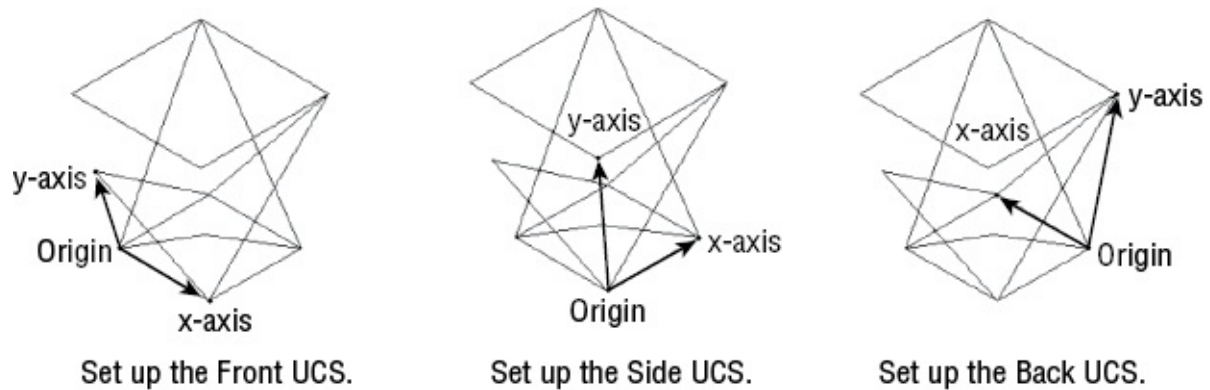

FIGURE 21.31 Defining and saving three UCSs
2. At the Specify new origin point $\langle 0, 0, 0 \rangle$: prompt, use the Endpoint osnap to pick the bottom of the chair leg to the far left, as shown in the left image of Figure 21.31. This is the origin point of your new UCS.
3. At the Specify point on positive portion of X-axis: prompt, use the Endpoint osnap to pick the bottom of the next leg to the right of the first one, as shown in the left image in Figure 21.31.
- At the Specify point on positive-Y portion of the UCS XY plane: prompt, pick the top corner of the butterfly chair seat, as shown in the left image in Figure 21.31. The UCS icon changes to indicate your new UCS.
- Define a UCS for the side of the chair, as shown in the middle image in Figure 21.31. Use the UCS dialog box to rename this **UCS Side**, just as you did for Front in steps 5 through 8 in the previous exercise. Remember that you renamed the unnamed UCS.
- Repeat these steps for a UCS for the back of the chair, named Back. Use the right image in Figure 21.31 for reference.